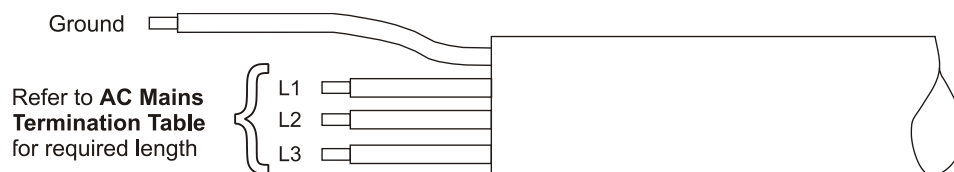

Figure 2-10: Termination of AC mains cable
4. Prepare the AC mains cable as per Figure 2-10 and the **AC Mains Termination Table**, and then strip the ends of the leads to the required length.